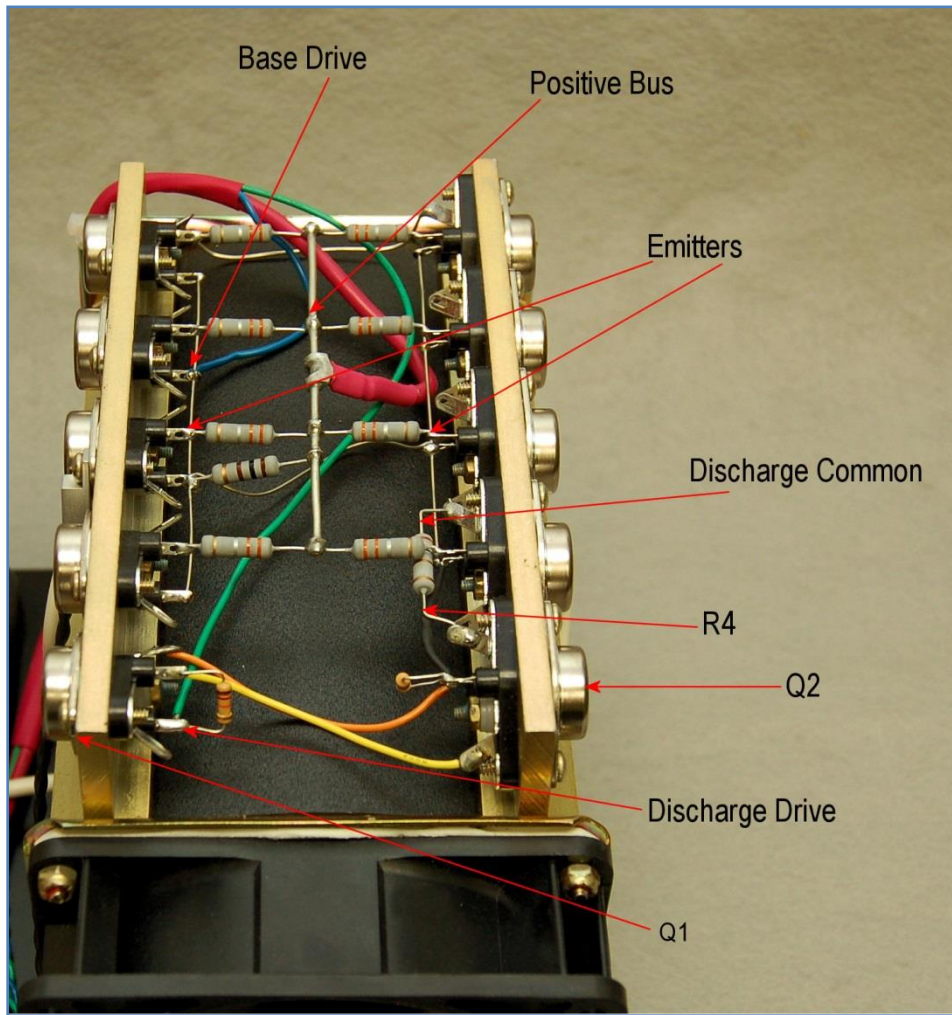

Figure 8 - Measuring for a shorted transistor
13.2.2.2. Connect the lamp in place of the discharge current limiter (see fig 8).
13.2.2.5. Measure the voltage across the individual .22 OHM emitter resistors (RED-RED-GOLD-GOLD) (see fig 8).